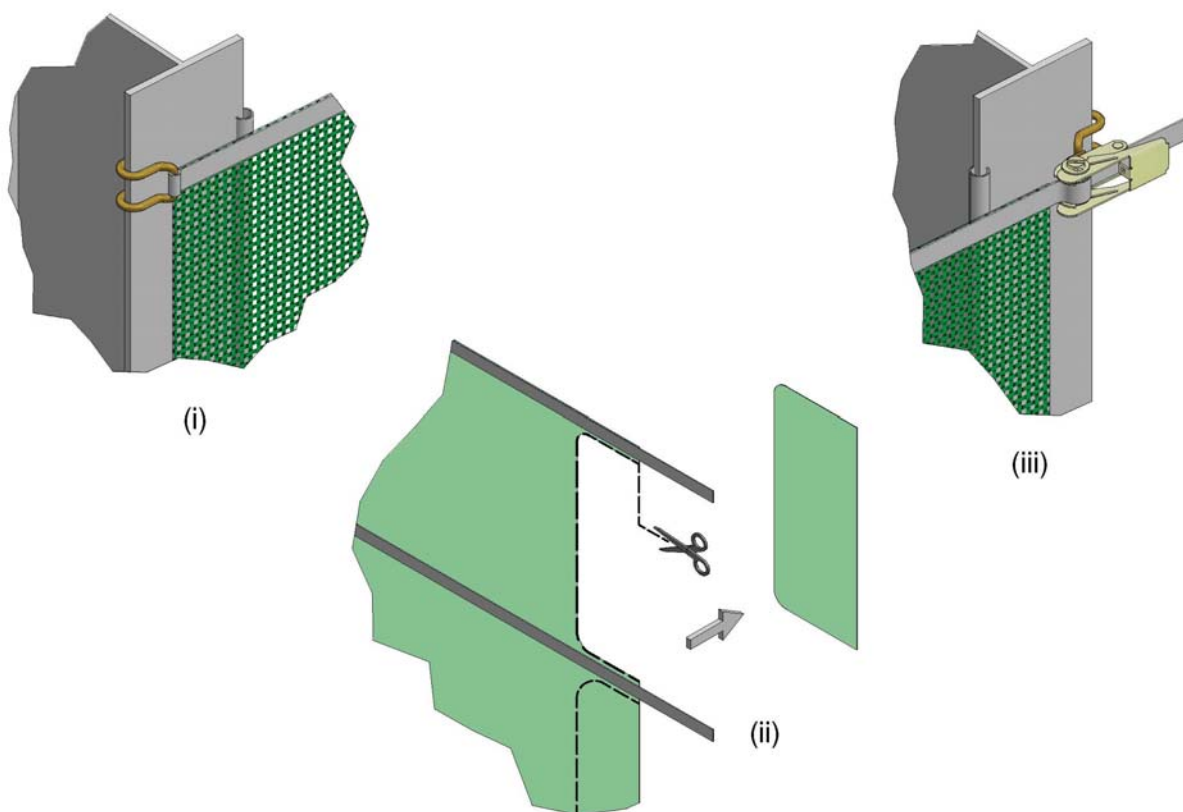
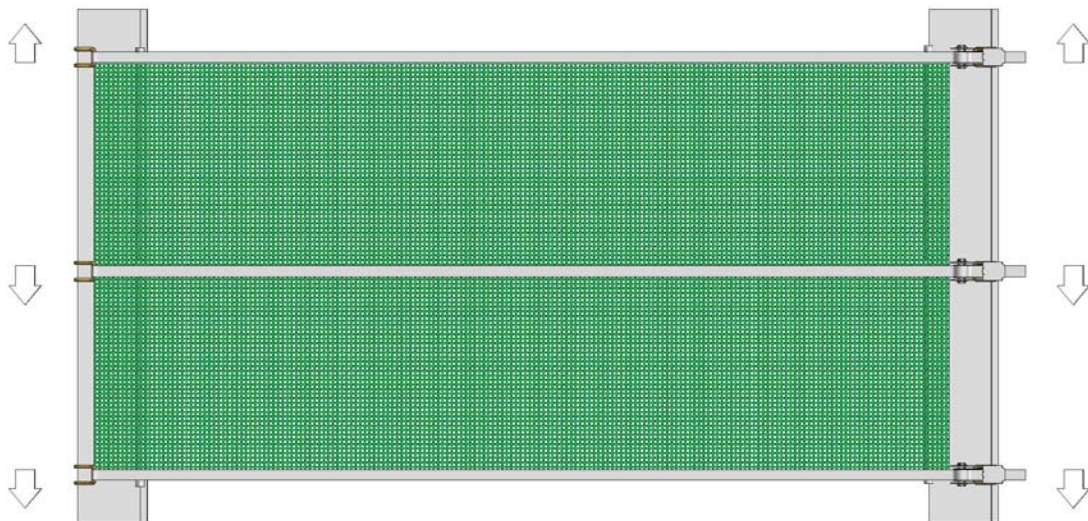

Figure 5, Fitting the Sheet
Figure 7, Tensioning the Screen
3. Fix the plain hooks (C1 or C2) into the screen loops (A1) and attach to left-hand H-Beam, Figure 5(i).
5. If necessary trim the screen to the required length. For best results, use sharp scissors / knife with a straight edge to remove the fabric either side of the webbing strap ensuring all corners have a radius. Always remove surplus fabric, do not just cut either side of the webbing that allows a loose flap, to be generated, Figure 5(ii).
7. Hold the ratchet assembly in position on opposite H-Beam. Thread the top strap through the ratchet, do not fully tension screen at this stage, Figure 5(iii). Repeat stage on all remaining ratchets/straps. Push all the ratchets and hooks away from each other to provide good tension to the vertical edges of the Bayscreen (Figure 7).